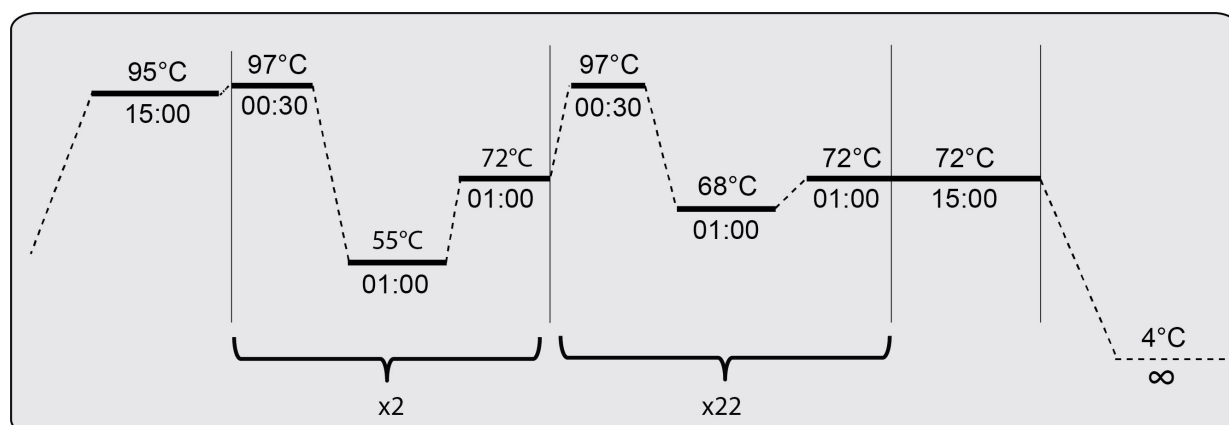

Figure 8. Thermal profile PCR2
- A. Program the thermal cycler according to the PCR2 thermal profile in figure 8